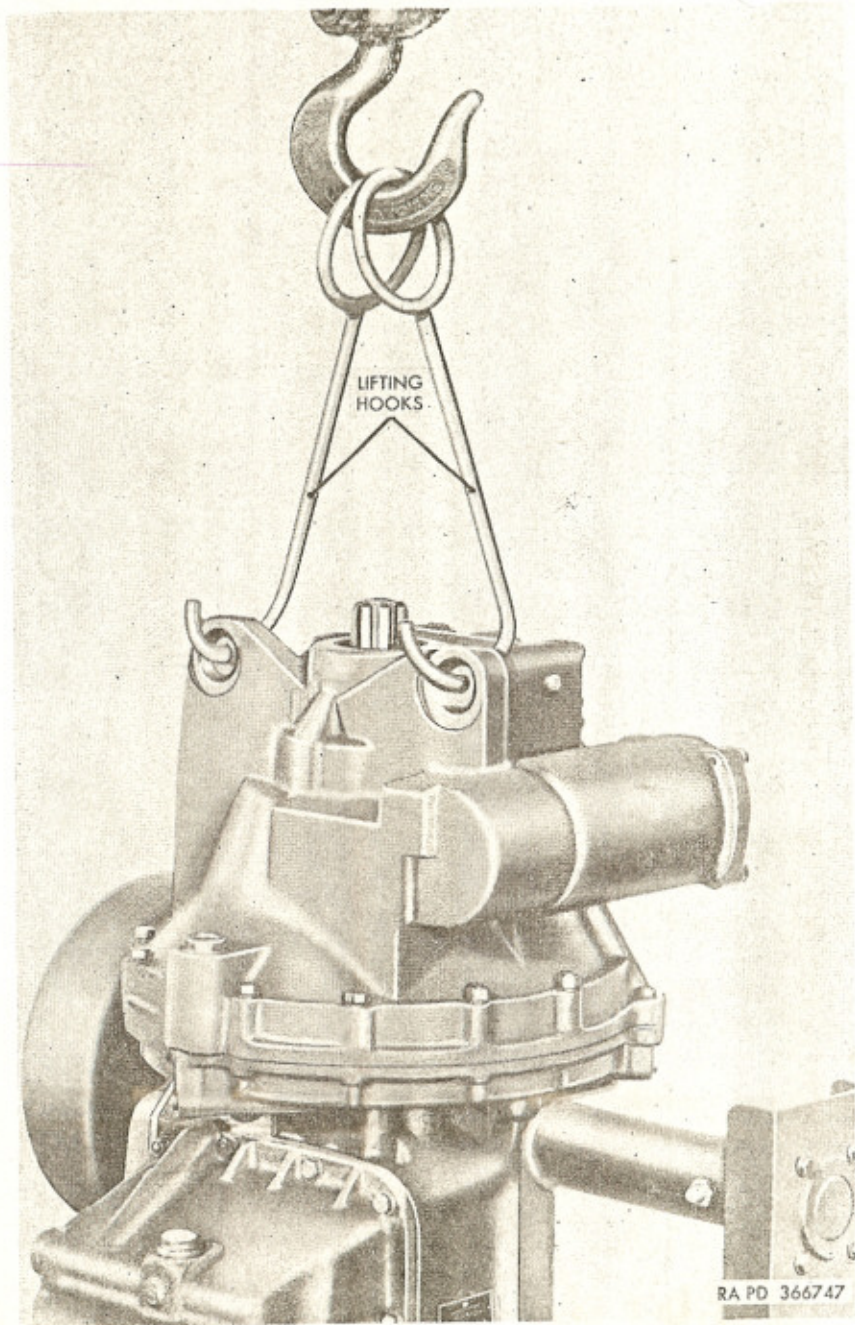

Figure 17. Use of transmission lifting hooks—B7950336 (303M).
j. Use a chain hoist and two lifting hooks—B7950336 (fig. 17) to facilitate positioning of 303M transmission from work bench to repair stand or vice versa.